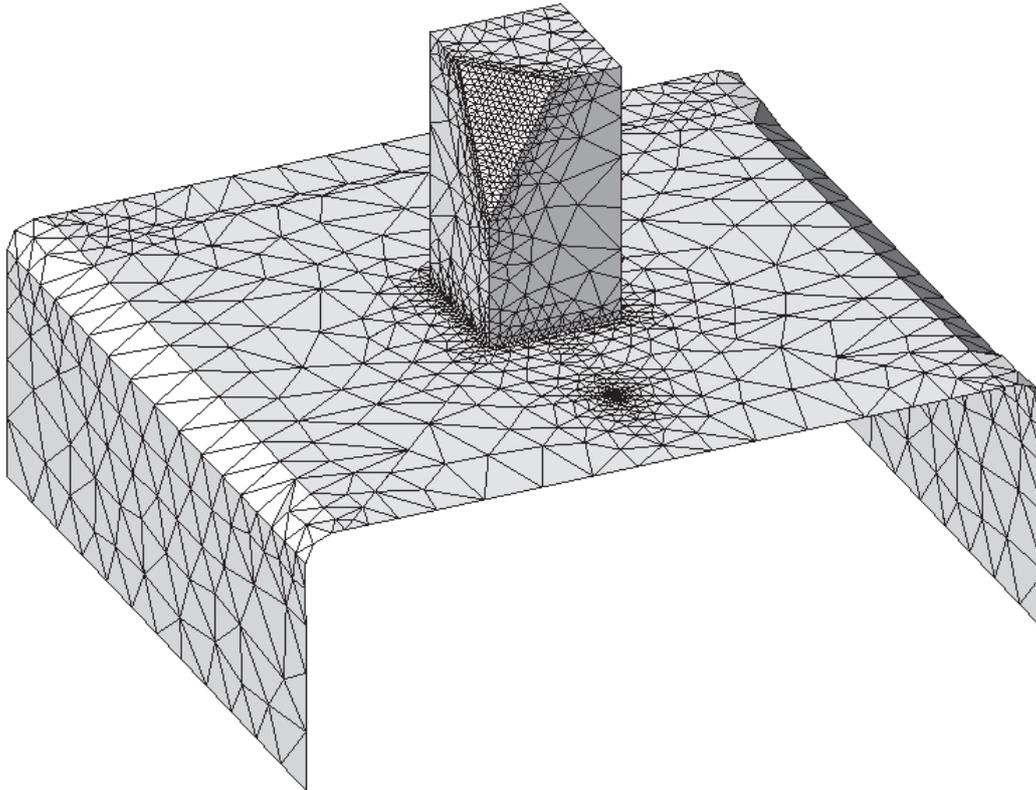

Figure 8. Mesh with a concentration of elements on a surface.
- 5 This results in a high concentration of elements on the chosen surface due to the value selected (0.5) (see Figure 8).